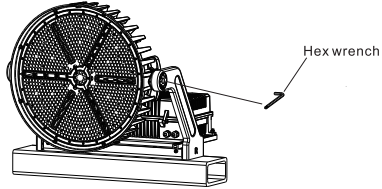

Figure 5
- 4. Use hex wrench to loosen the adjustment screw used to adjust the angle (Figure 5);